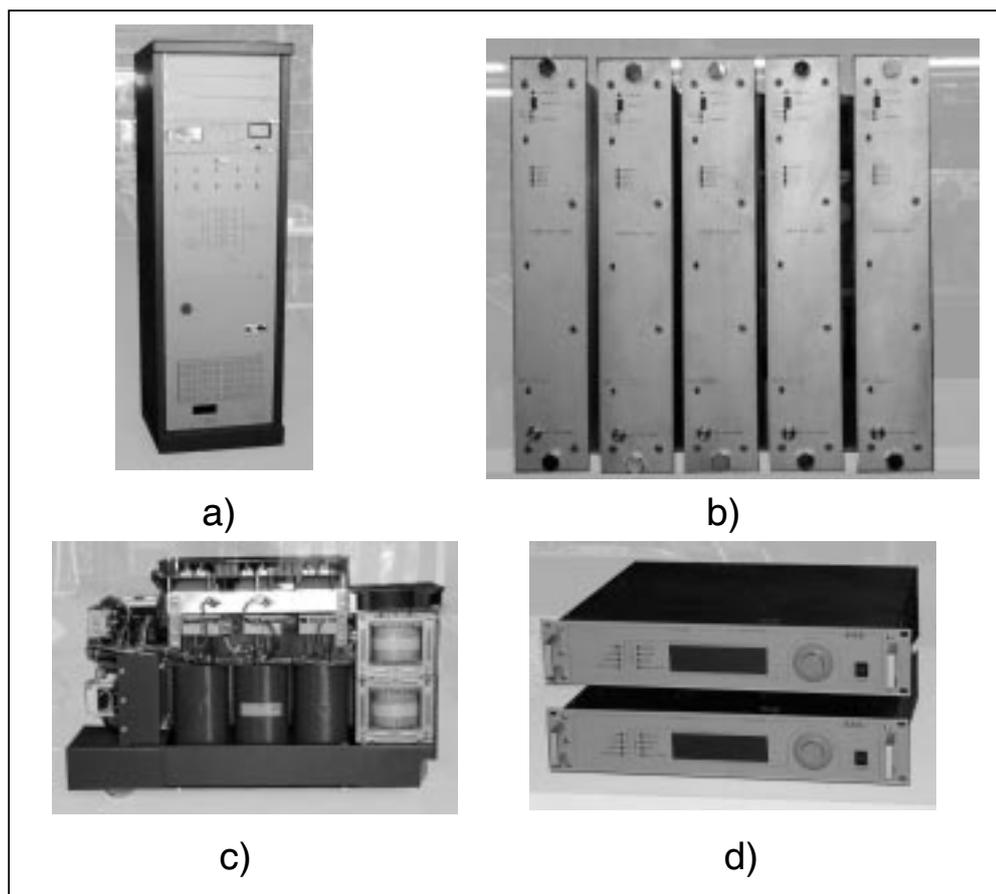

Figure 5-1 Components of the PJ5KPS
- The rack (various components are assembled, such as the coupler, the splitter, the control unit, the main blower) [Figure 5-1 a)]
- The 5 RF modules [Figure 5-1 b)]
- One or two transformer/rectifier carriages [Figure 5-1 c)]
- The exciters [Figure 5-1 d)]. (As a rule the amplifier is supplied as a complete transmitter. This example shows two PTXLCD exciters produced by R.V.R. Elettronica. Usually the exciters are pre-assembled inside the rack).